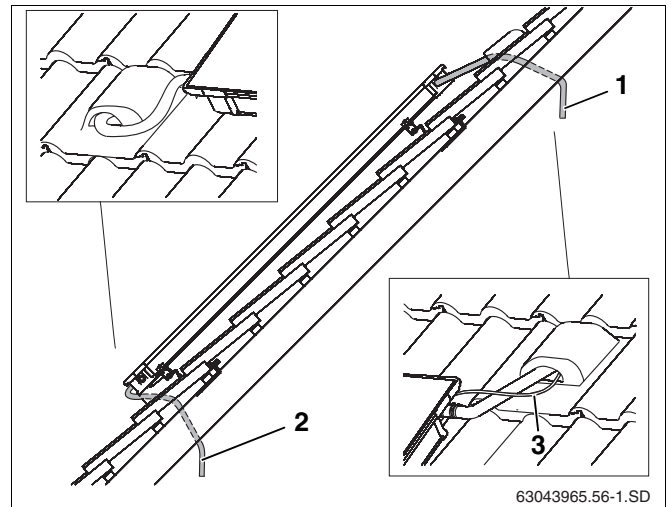

Fig. 52 Routing connection pipes under the roof
- ▶ Feed solar hose together with the sensor cable through the ventilation tile (Fig. 52, **Item 1**) and through the roof insulation.